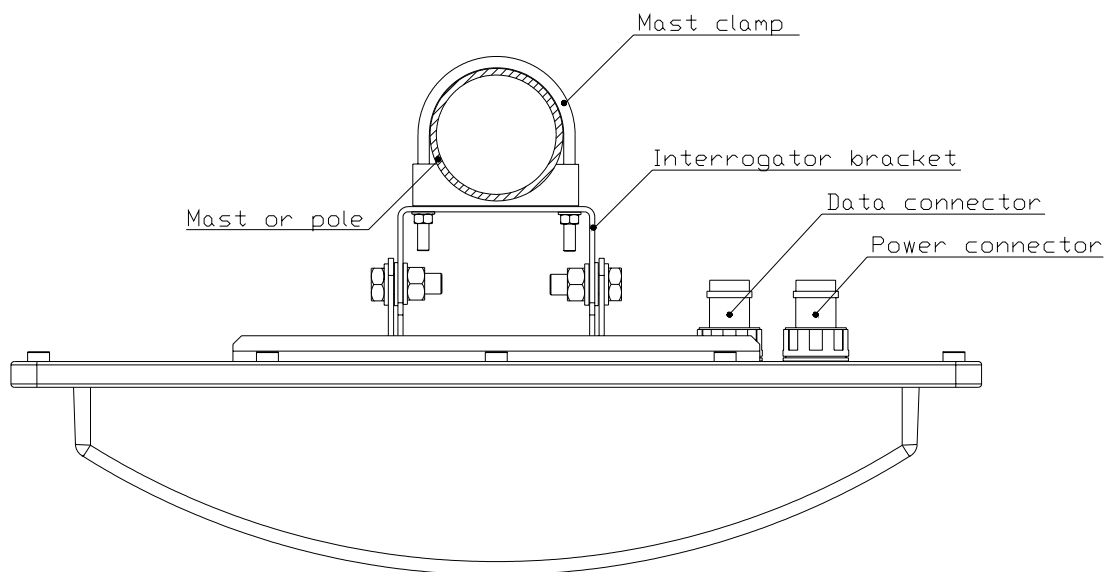
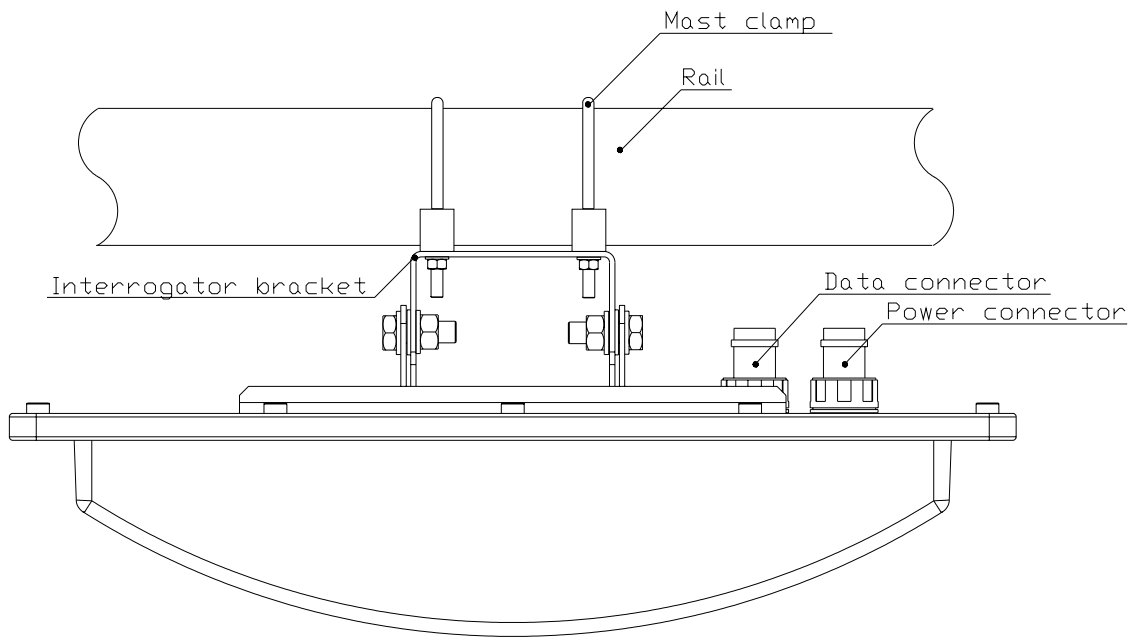

Figure 6 Interrogator Unit mounted to mast or pole, top view
Figure 7 Interrogator Unit mounted to rail, top view
2. When the best mounting location for the Interrogator Unit has been identified, mount the bracket to a mast, pole or rail with clamps as shown in Figure 6 and Figure 7. The mounting plate is designed for 2-inch mast, pole or rail mounting and clamps are enclosed with the delivery. The bracket can also be mounted on a wall. If wall mounted, remember to make holes in the wall for entering the power and data cables to the connector at the rear of the Interrogator Unit.